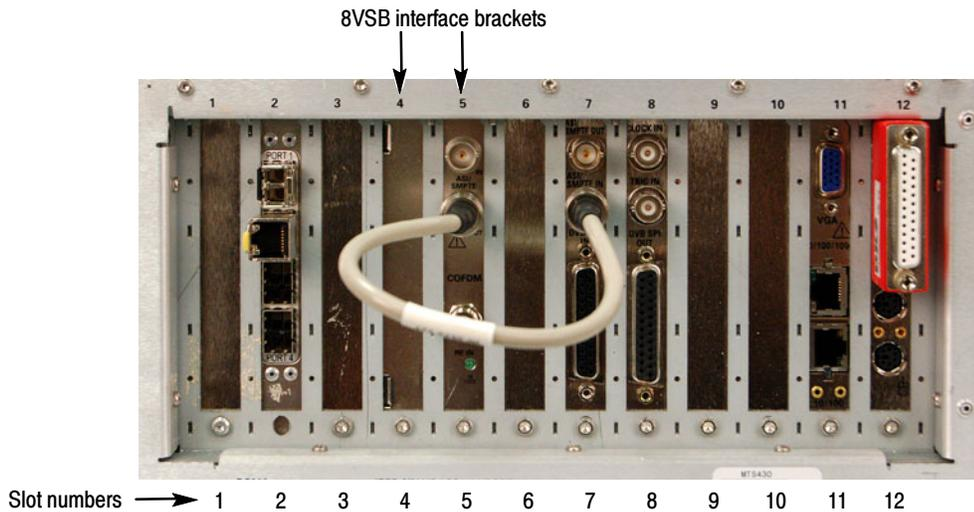

Figure 15: MTS400 Series system rear panel
6. The 8VSB interface module is installed in slots 4 and 5 (see Figure 15). Disconnect the interface cable from the 8VSB module.
7. Remove the two retaining screws from the top of the 8VSB module and also the retaining screw from the top of the bracket in slot 6 (see Figure 15).
17. Position the interface module in slots 4 and 5 of the instrument chassis (see Figure 15 on page 17). As you hold back any overlapping cables, carefully align the connector on the bottom edge of the module with the connector on the Backplane board, and then apply firm pressure to completely seat the module in the Backplane board connector.